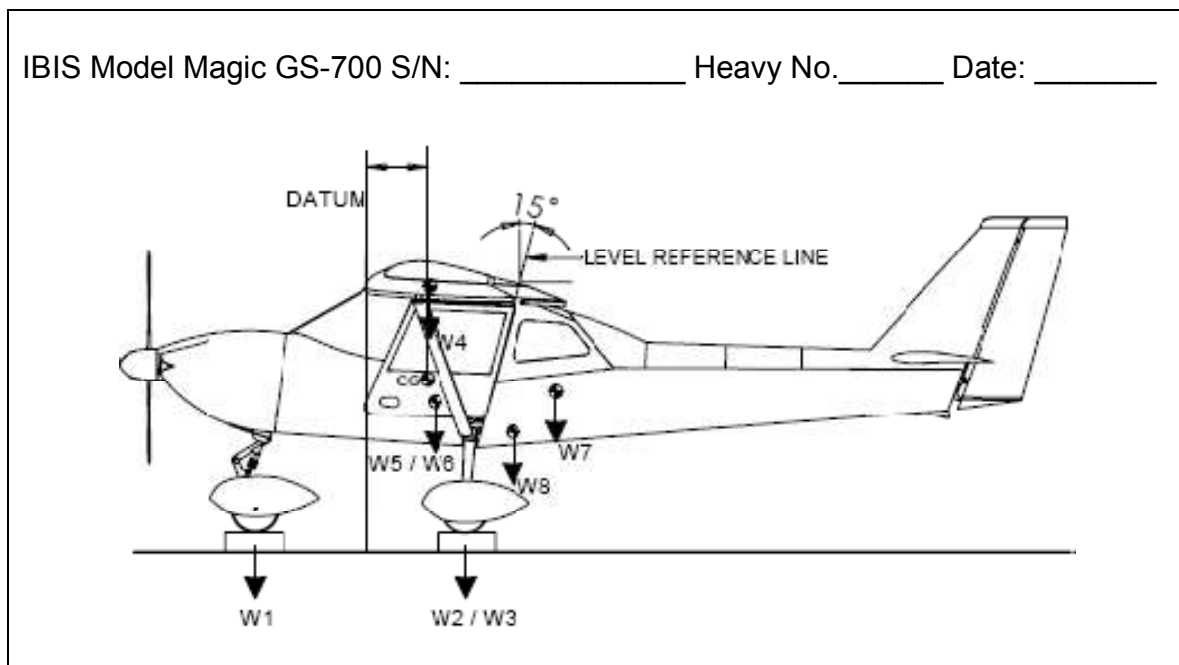

Figure1. Leveling Reference Magic GS-700.
- Level the aircraft by reference to the 15 ° of the back cabin (Figure 1).